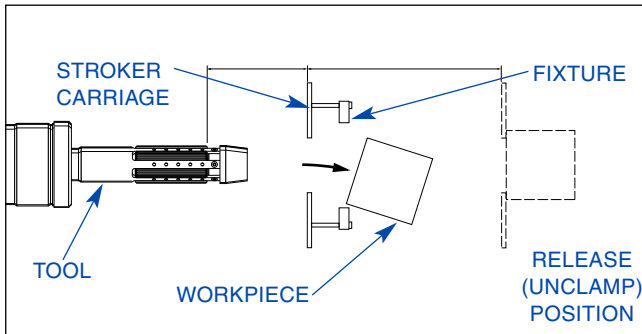

FIGURE 3-4, Unload Position
- Use F2 (OUT) and F3 (IN) along with Palm Buttons, to move Carriage Unload Position (see Figure 3-4).